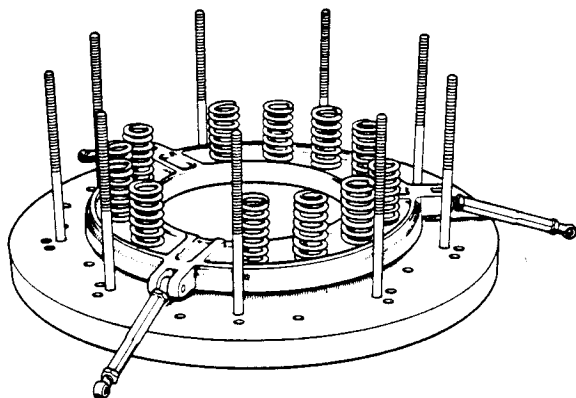
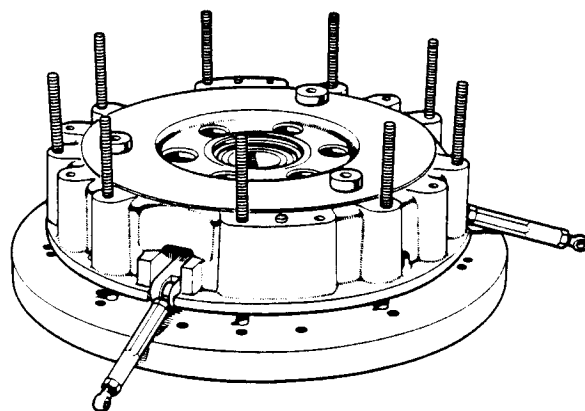

Figure 24. ASSEMBLING PTO PRESSURE PLATE
Figure 25. FITTING SEPARATOR HOUSING
2. Place Code 3 spacers on baseplate and place PTO pressure plate on spacers; position plate so the spacers are adjacent to plate lugs. (Fig. 24.) Fit red springs on pressure plate and, after smearing plate lugs with anti-scuffing paste, place separator housing in position. Align the assembly marks and ensure that no insulating washers fall out as the housing is inverted. (Fig. 25.)